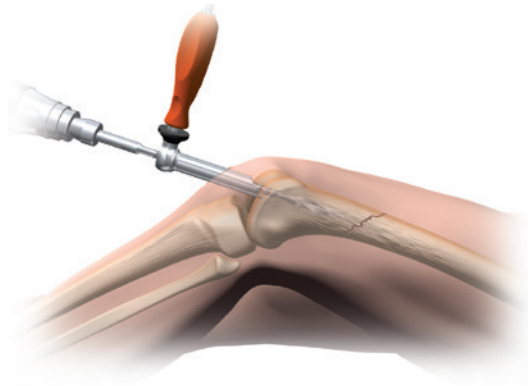

Figure 9
1. With the Entry Tube and Entry Portal Handle still in the joint space, attach the T-handle (71674076 or 71674576) to the Cannulated Awl (Figure 9).